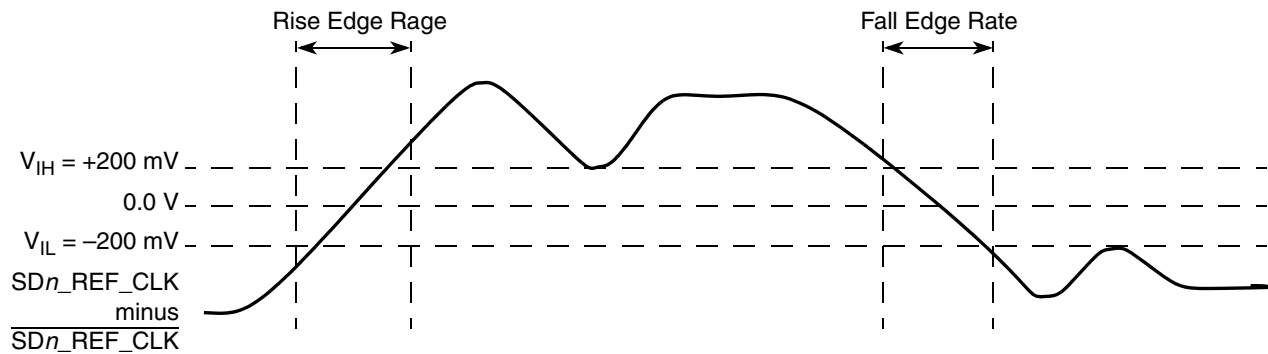

Figure 49. Differential Measurement Points for Rise and Fall Time
3. Measured from –200 mV to +200 mV on the differential waveform (derived from SDn_REF_CLK minus SDn_REF_CLK). The signal must be monotonic through the measurement region for rise and fall time. The 400 mV measurement window is centered on the differential zero crossing. See Figure 49.